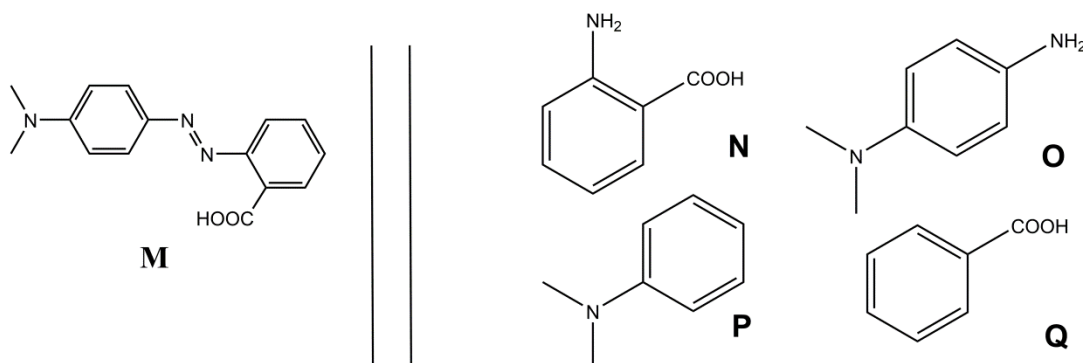

Fig. 1 – Possible reactants for the synthesis of **M**.
2. **M** can be synthesized in two steps from simple reactants (Fig. 1). **Choose** the reactants (**N** to **Q**) that can provide **M** with very high regioselectivity. Sodium nitrite ( $\text{NaNO}_2$ ) in cold aqueous hydrochloric acid are used as reagents for the first step of the synthesis.